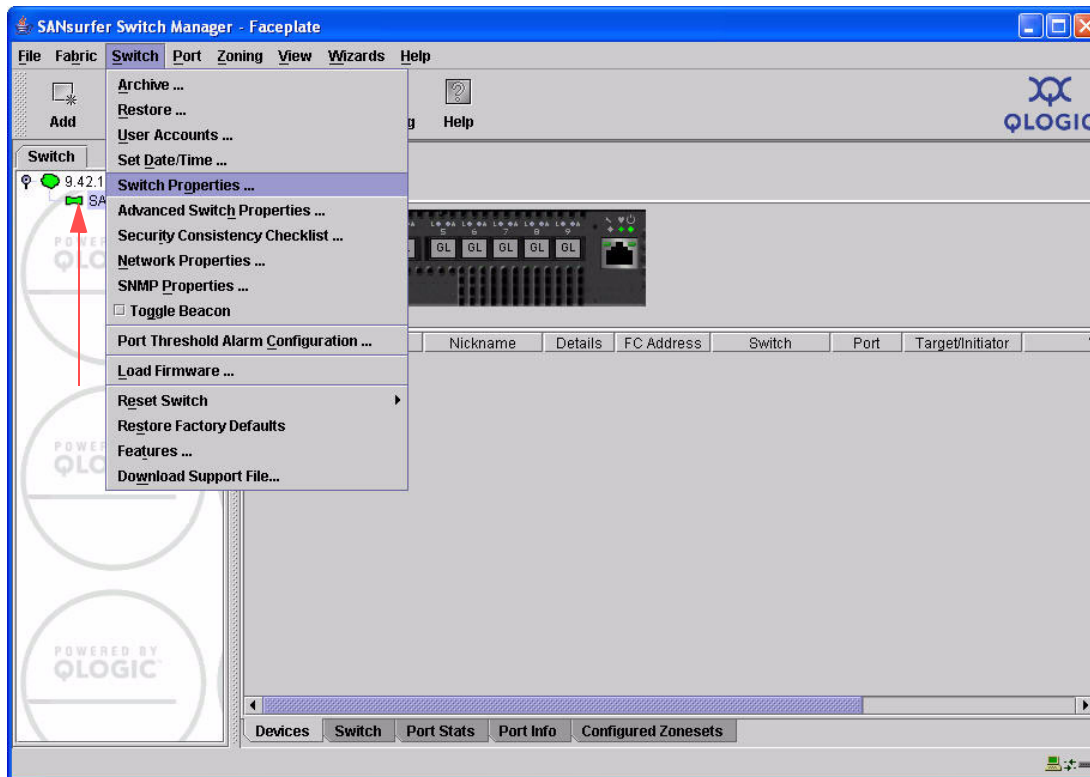

Figure 7-36 SANsurfer Switch Manager - Faceplate window
- From the Topology window in the left pane, click the drop down tree. Click to select your switch. Select **Switch** → **Switch Properties...** (Figure 7-36).